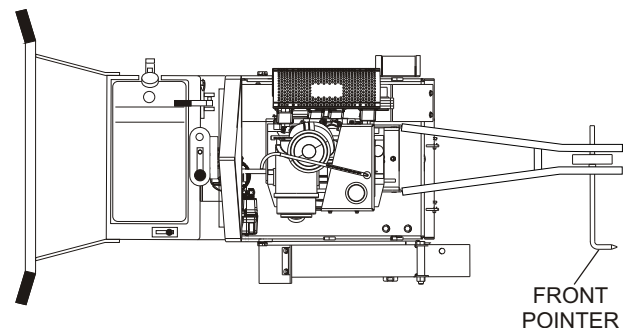

Figure 31. Saw Pointer
1. The saw employs a front pointer (Figure 31) that has been precisely aligned with the diamond blade at the factory. Accurate tracking is accomplished by referencing the front pointer tip over the cut line. Precise saw direction is accomplished by slight operator pressure against the handle bars.